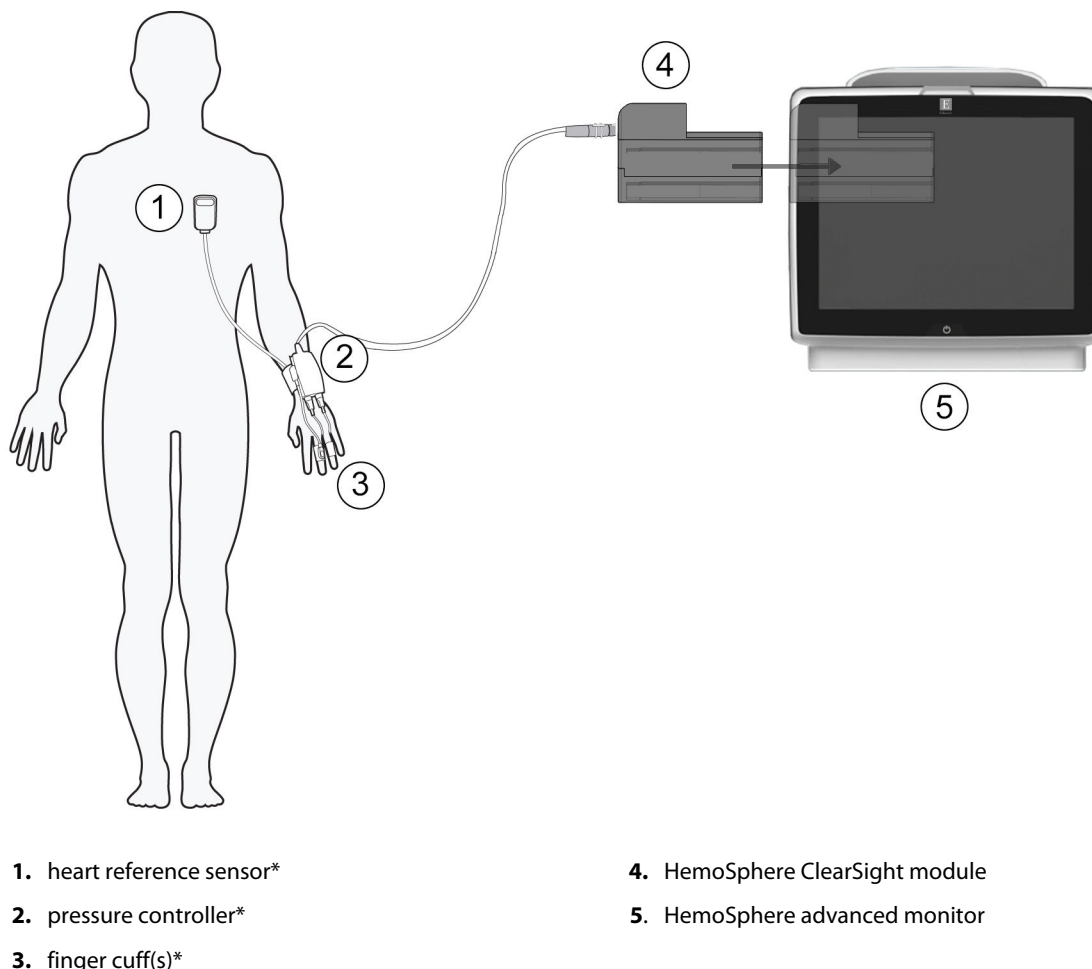

Figure 11-1: HemoSphere non-invasive system connection overview
The HemoSphere noninvasive system is composed of the HemoSphere advanced monitor with ClearSight module and connected pressure controller, heart reference sensor, and compatible Edwards finger cuff(s). See system connections in Figure 11-1 on page 205. Accurate measurement of the patient's blood pressure and key hemodynamic parameters is based on the Volume Clamp method, Physiocal method and ClearSight algorithm.
The HemoSphere ClearSight module is compatible with all approved Edwards finger cuffs. See Figure 11-1 on page 205 for an overview of the HemoSphere non-invasive system connections.
Components indicated by * in Figure 11-1 on page 205 legend are APPLIED PARTS as defined in IEC 60601-1 that in normal use necessarily come into physical contact with the patient for the HemoSphere non-invasive system to perform its function.
3. Attach the pressure controller cable to the HemoSphere ClearSight module. (Figure 11-1 on page 205)